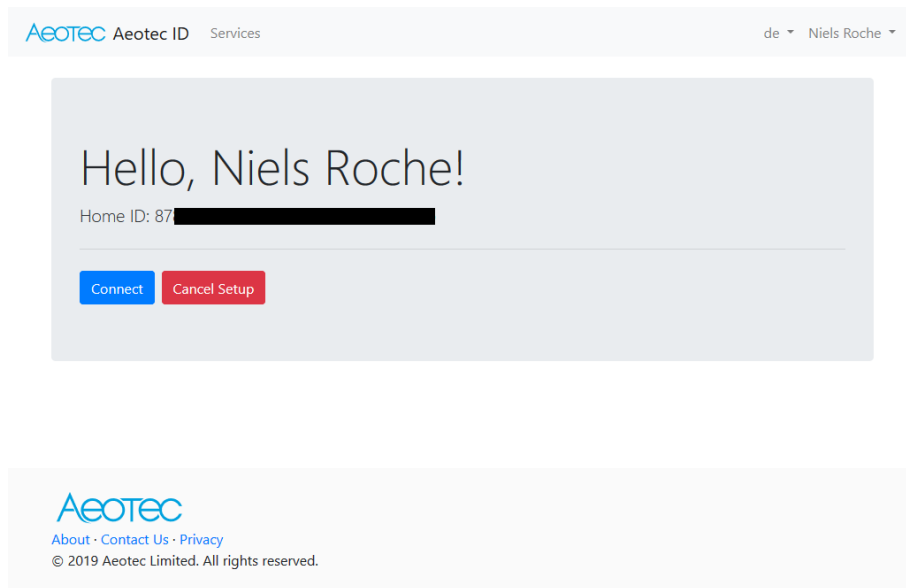

Fig. 7: Connect Dialog
- You will be forwarded to the **Setup/Connect Dialog** (Fig. 7)
6. Click Connect to connect AutoPilot™ to your AEOTEC ID™ account (Fig. 7)